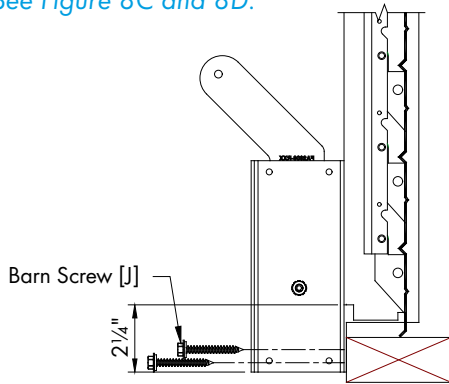
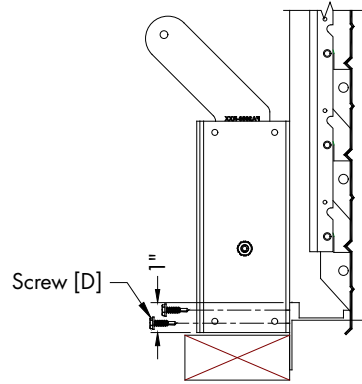
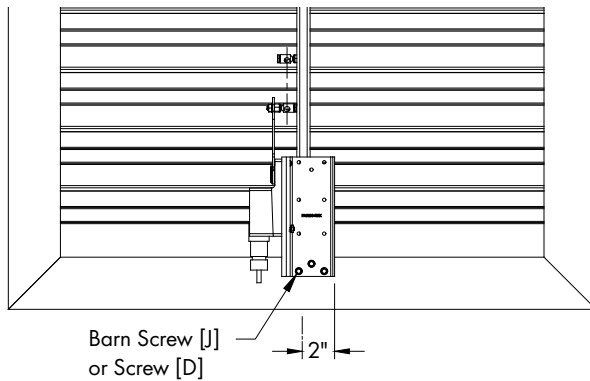

Figure 8A
Figure 8B
Figure 8C
If shutter is installed with framing on the blade side of shutter, then install Motor/Bracket Assembly to shutter so that the bottom of the bracket is flush to the bottom frame ( $2\frac{1}{4}$ " below top of bottom frame) using (3) Barn Screws [J]. See Figure 8A. If shutter is installed with framing opposite of the blade side of shutter, then install Motor/Bracket Assembly to shutter so that the bottom of the bracket is 1" below top of bottom frame using (3) Screws [D]. See Figure 8B. The right side of the bracket should be 2" right of the center of the shutter. When in place the bracket should be parallel to the Connecting Bar and the holes in each of the Swivel Ball Joints should line up, adjust placement if needed. Secure bracket in place using (3) Barn Screws [J] or (3) Screws [D]. See Figure 8C and 8D.